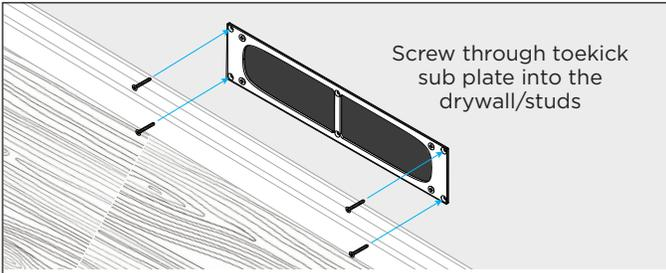

Figure 25: Secure Toekick Sub Plate to Drywall/Stud
- From the front side of the wall, level and secure the toekick sub plate at the four outer screw holes using the four included long screws (see Figure 25).